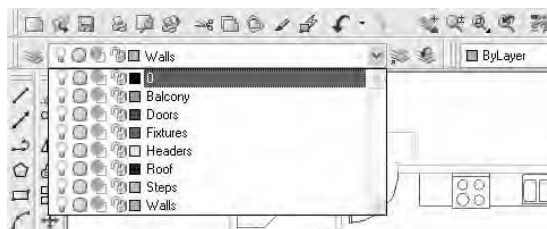

FIGURE 6.14: The opened Layer Control drop-down list
2. Click the Layer Control drop-down list to open it (see Figure 6.14).